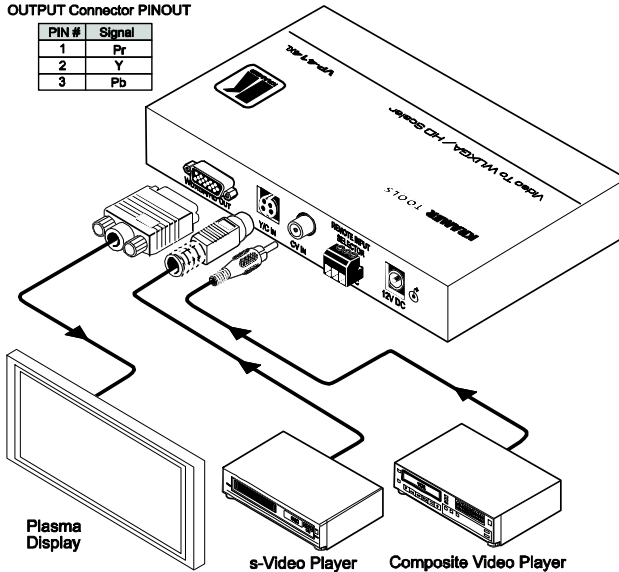

Figure 6: Connecting the VP-414xl
To connect the **VP-414xl**, as illustrated in the example in Figure 6, do the following¹:
3. Connect the **12V DC** power adapter to the power socket and connect the adapter to the mains electricity (not shown in Figure 6).
2 The connection is not illustrated in Figure 6